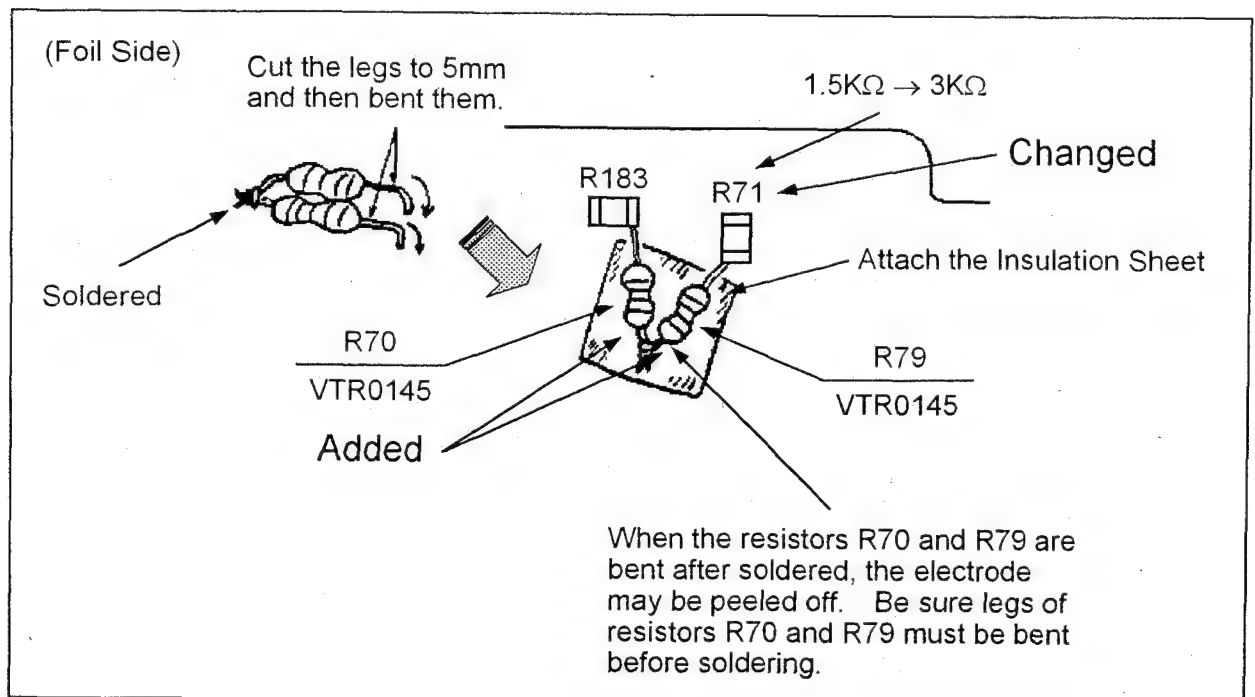

Fig. 2
- 3). One side legs of resistors R70 and R79 are cut to 5mm and then bent them as shown in figure 2.
- 4). The other side legs of them are soldered as shown in figure 2.
- 5). Attach the insulation sheet on the foil side as shown in figure 2.
- 6). No soldered side of resistor R70 is installed to R183 as shown in figure 2.
- 7). No soldered side of resistor R79 is installed to R71 as shown in figure 2.